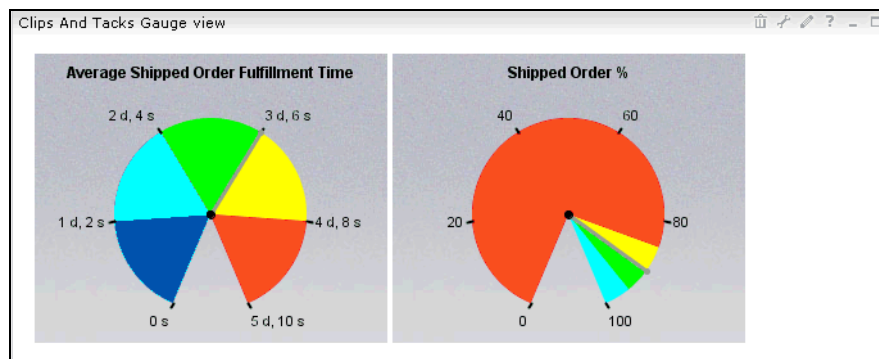

Figure 14-79 Gauge view configured
- ▶ Click *Personalize* for each view and define ranges and colors in the same way as for the KPI view. The finished view is shown in Figure 14-79.